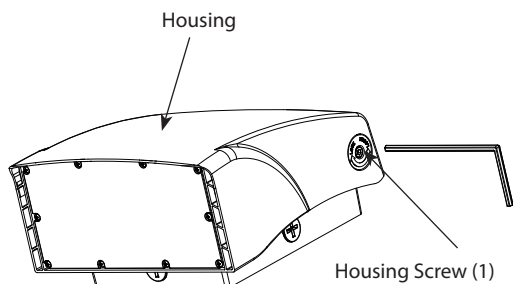

Fig: 11
1. Using an Allen Wrench loosen (1) **Screw** on **Housing** side as shown in **Fig. 11**.
4. Lower **Housing Cover** and secure with (1) **Screw** using an Allen Wrench as shown in **Fig. 11**.